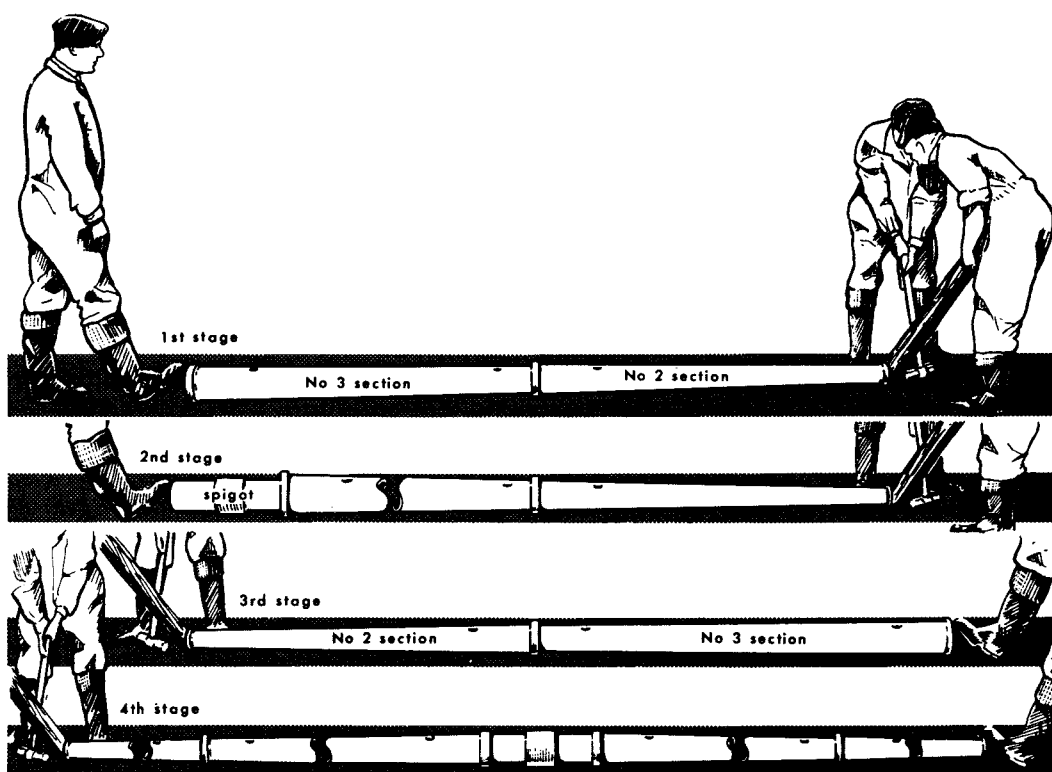

Fig 14.6 Four stages in the assembly of a 'Cigar'
- When inserting one section into another, the reinforced holes must be kept in line (Fig 14.6). This ensures that the guy ropes will be attached to the mast correctly, in order to take the load in the correct direction. It also facilitates the dismantling procedure.
- While one man places his foot against the open end of the No 3 section (Fig 14.6) a second man holds a piece of wood against the closed end of the No 2 Section and a third man gives the wood several light blows with a sledge hammer. Heavy blows are not necessary and should be avoided.
- Insert the spigot into the No 3 Section and again tap the end of the No 2 section (Fig 14.6).